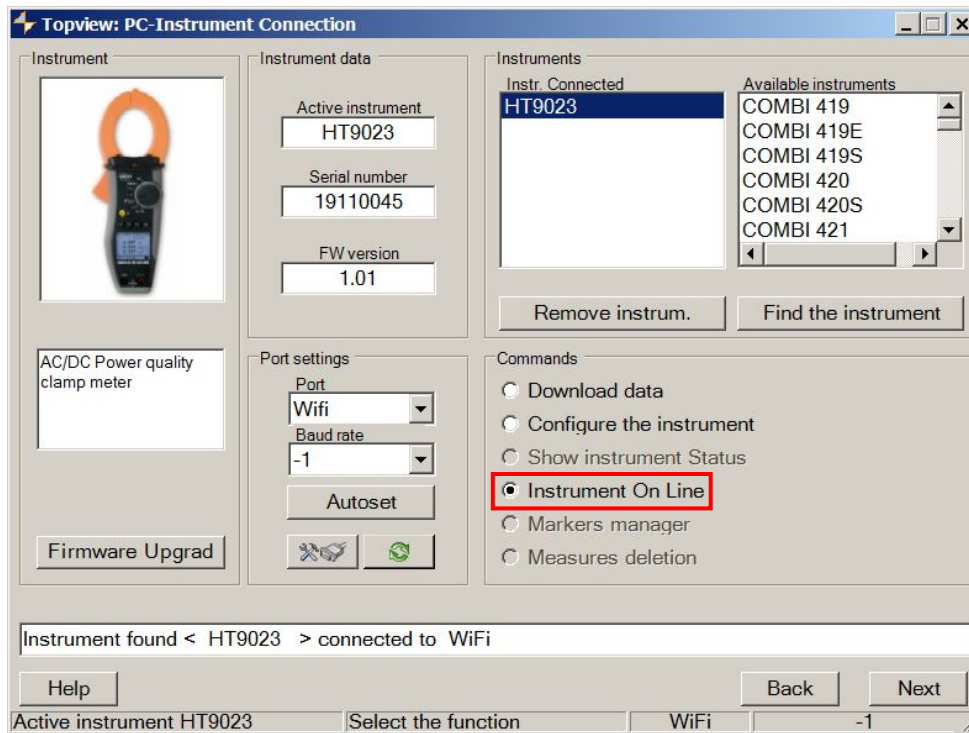

Fig. 19: Real-time connection of the instrument
7. Open the "PC-Instrument connection" section and select the "Instrument on line" option as shown in the following Fig. 19